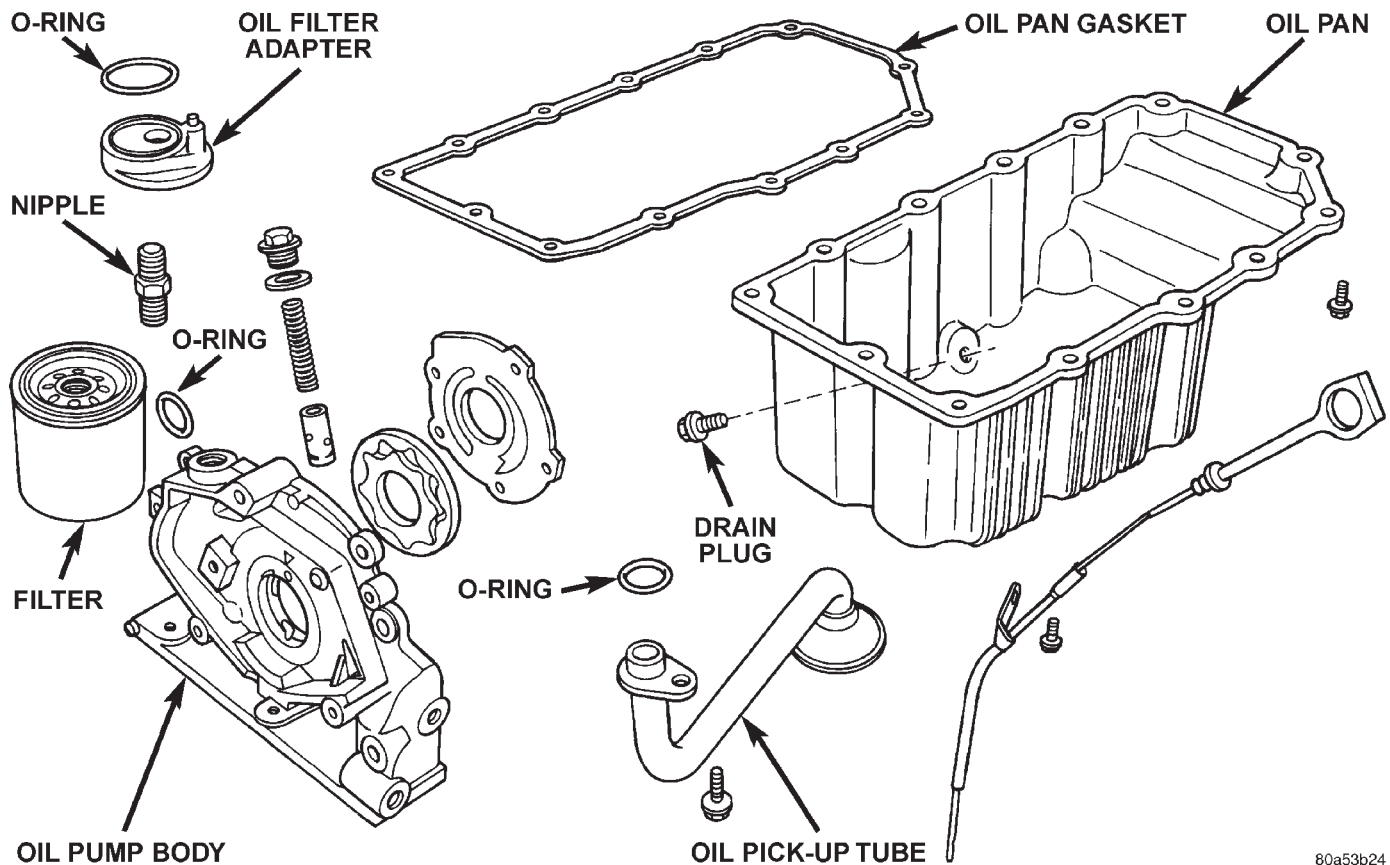

Fig. 87 Oil Pump and Tube
(6) Remove oil pump, (Fig. 87) and front crankshaft seal.